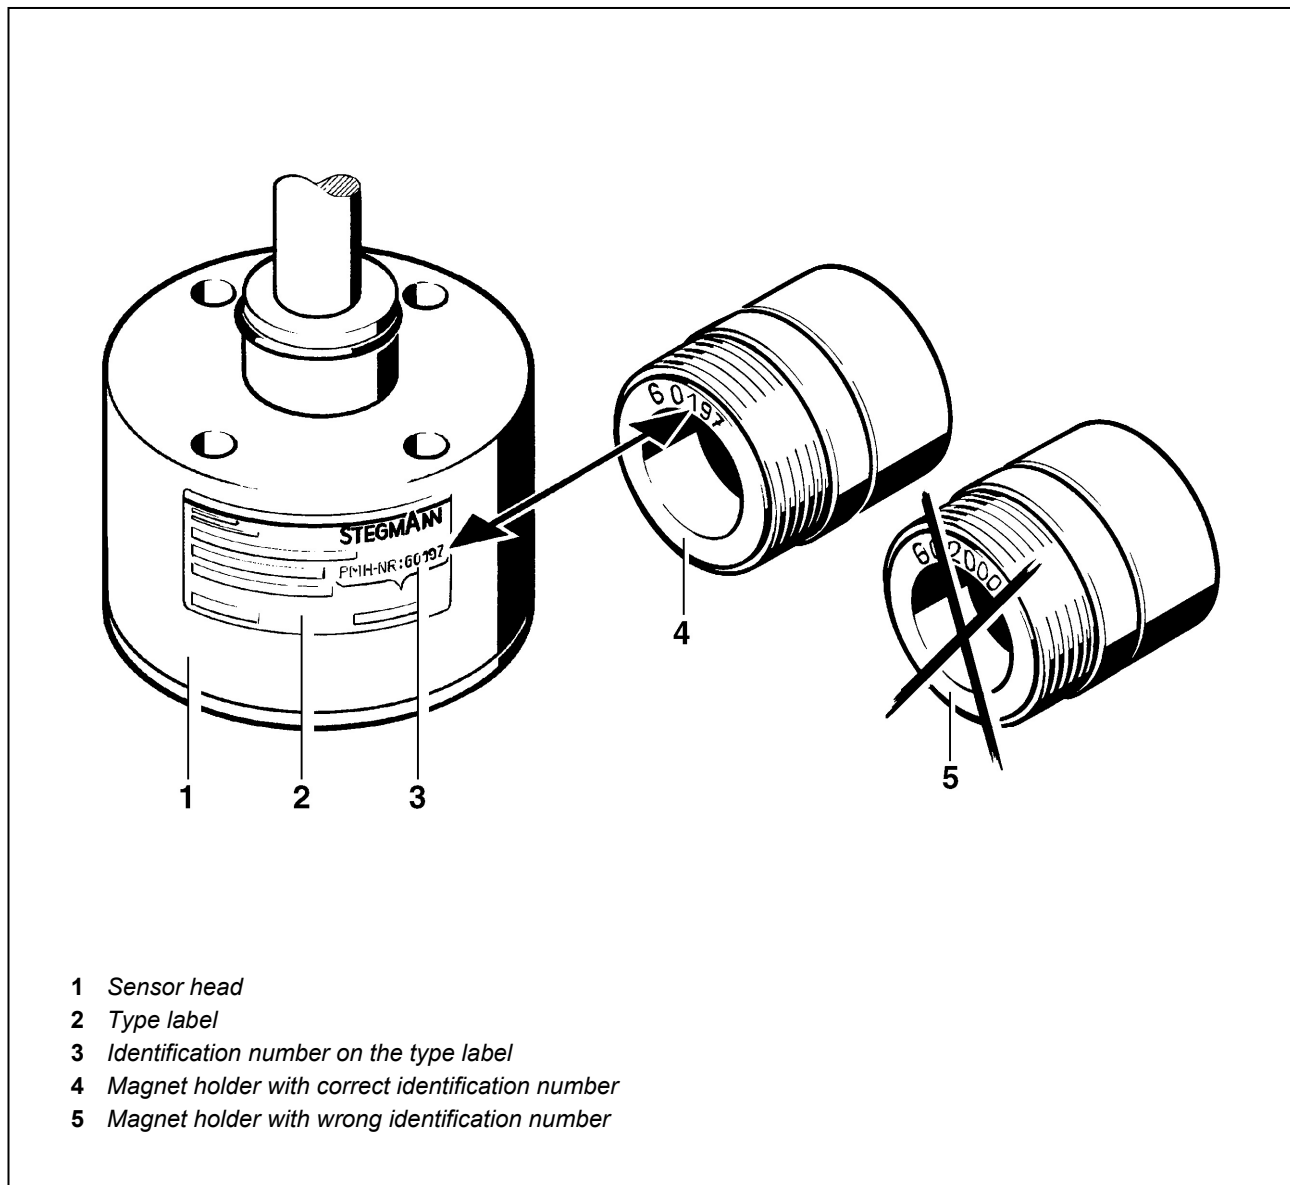

Fig. 4-1
- using their identification number (PMH.....), whether there is a matching magnet holder for each sensor head (for this, see Figure 4-1).